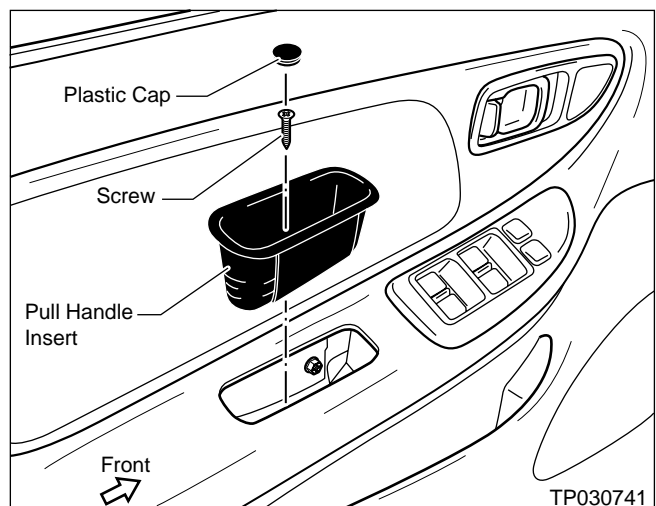

Figure 2
2. Take out the Plastic Cap and the screw, then remove the Pull Handle Insert (see Figure 2).